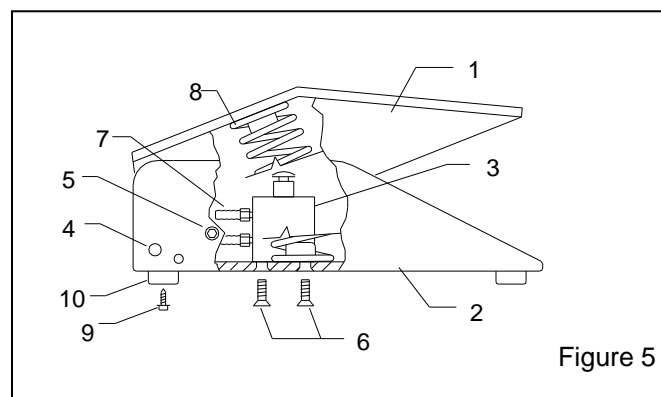

Figure 5
**9.2 Foot Pedal Assembly, Figure 5**